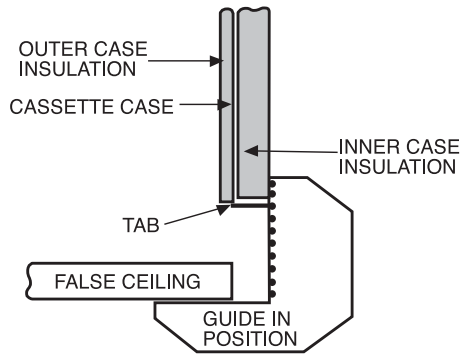

Fig. 21 — Positioning Installation Guide
1. Hold the tab on the installation guide against the bottom of the cassette case with the guide pointing away from the cassette. See Fig. 21.